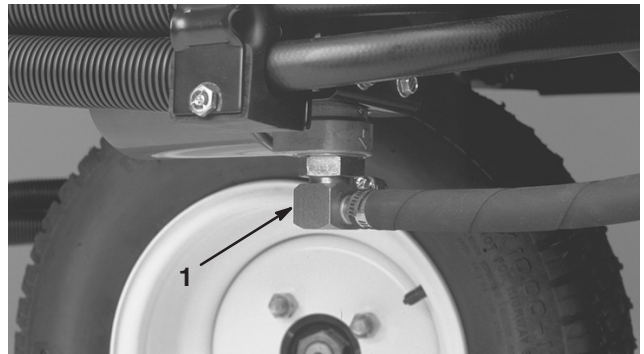
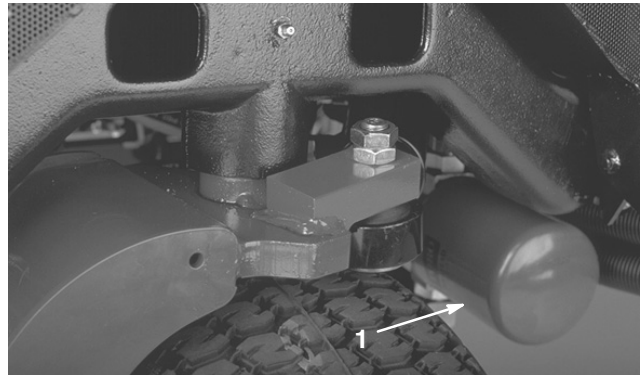

Figure 48
Figure 49
2. Disconnect the hydraulic line (Fig. 48) or remove the hydraulic filter (Fig. 49) and let the hydraulic fluid flow into a drain pan. Install the hydraulic line when hydraulic fluid stops draining.
3. Clean around the filter mounting area. Place a drain pan under the filter (Fig. 49) and remove the filter.